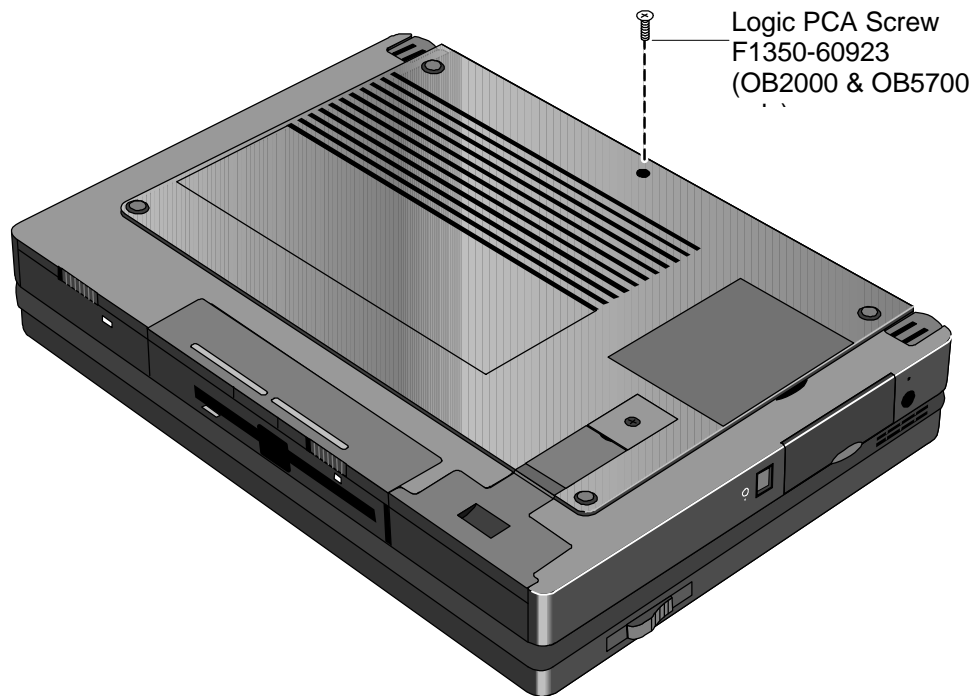

Figure 39 - Additional Screw for Logic PCA Removal
2. Turn the OmniBook off and remove the battery, ac adapter. For the OmniBook 2000 and 5700 only, remove the Logic PCA Screw (see Figure 39 for location).